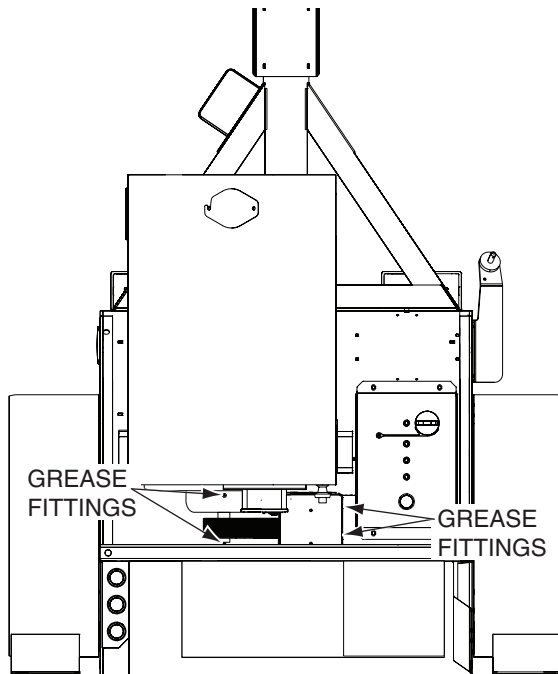

Figure 5-3. Impeller Shaft Grease Fittings
1. Apply grease to the two impeller bearing carrier grease fittings located on the rightside of the machine every 50 hours or weekly, whichever comes first, of operation. See Figure 5-3.
2. Apply grease to the two engine stub shaft grease fittings located on the back of the engine every 50 hours or weekly, whichever comes first, of operation. See Figure 5-3.